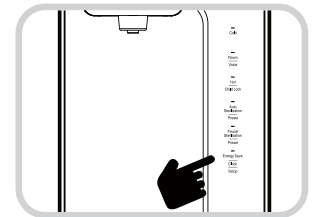

Fig. 13
1. Press the Energy Save/Clock (Setup) button for three (3) seconds in the Waiting Status to put the unit in the User Setting mode.
2. After the unit is in the User Setting mode, press the Energy Save/Clock (Setup) button again. (Fig. 13).